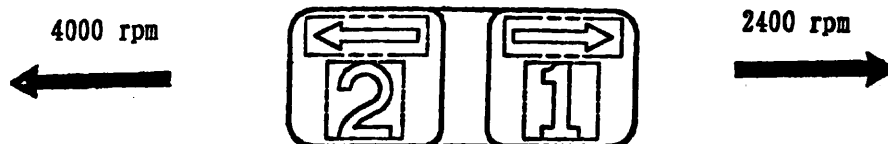

Fig. 10 Bit RPM selection switch
- (d) Bit rotational speed :- The speed at which the bit rotates may be set at 2700rpm or 4500rpm. A switch on the right hand side of the tool allows selection of the speed most appropriate for the work at hand. The settings '1' and '2' indicated on the transmission switch, correspond to the speeds 2700rpm and 4500rpm respectively (see fig.10). As a rough guideline, setting '1' (2700rpm) may be used for wood or steel applications, while '2' (4500rpm) may be used for drywall applications. When changing the tool's speed, firstly ensure the motor has fully come to a halt, then move the transmission switch until it clicks into the speed setting required. However, if the transmission switch cannot be pushed completely into position, press the trigger switch lightly and just before the motor comes to a complete stop, the transmission switch should be pushed into the required setting. The internal gears are now fully engaged and operation of the VL32-LH may recommence.